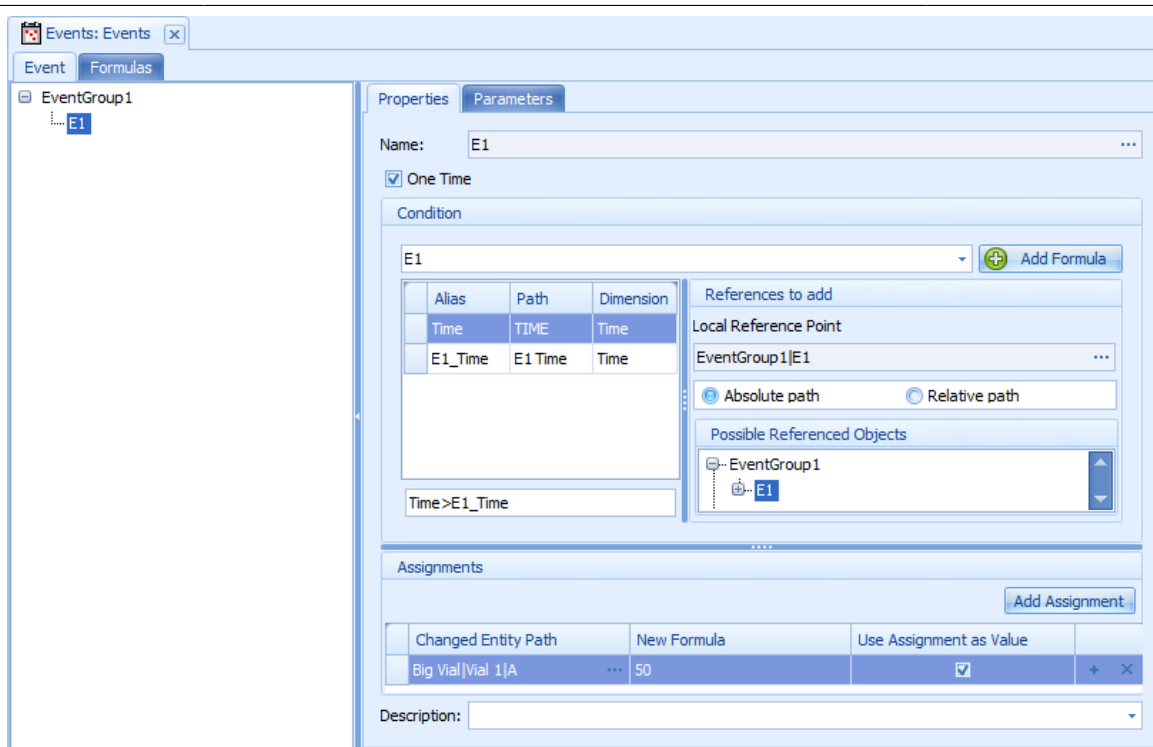

Figure 25.24. Event building completed
12. Click the "Properties" tab. Drag and drop the newly created parameter "E1Time" from the Possible Referenced Objects list on the right into the white space below the already added "Time" reference. To find this parameter, you need to look below the E1 event, so click on the + sign to open that part of the reference tree. Compare with Figure 25.24. In case you have defined the parameter under the event group, you will find it below the event group.